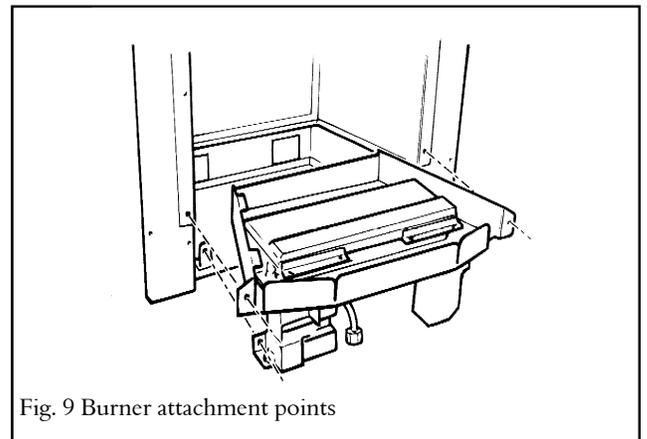

Fig. 9 Burner attachment points
7.3 Detach the burner unit from the convection box by removing three screws (see figure 9). Lift out the burner unit.